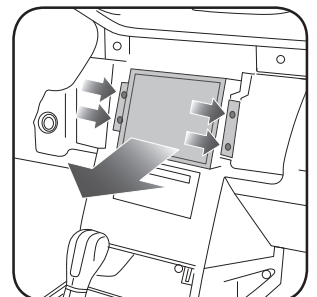

Fig. 1.6
5. Remove four (4) screws holding the screen frame, remove and unplug the OEM screen. (Fig. 1.6)